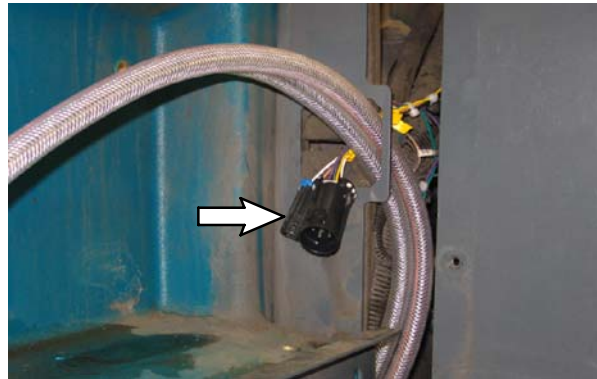

FIG. 14
48. Route *ec-H20* harness *ec-H20* assembly leads into the the operator compartment. Refer to Fig. 14.